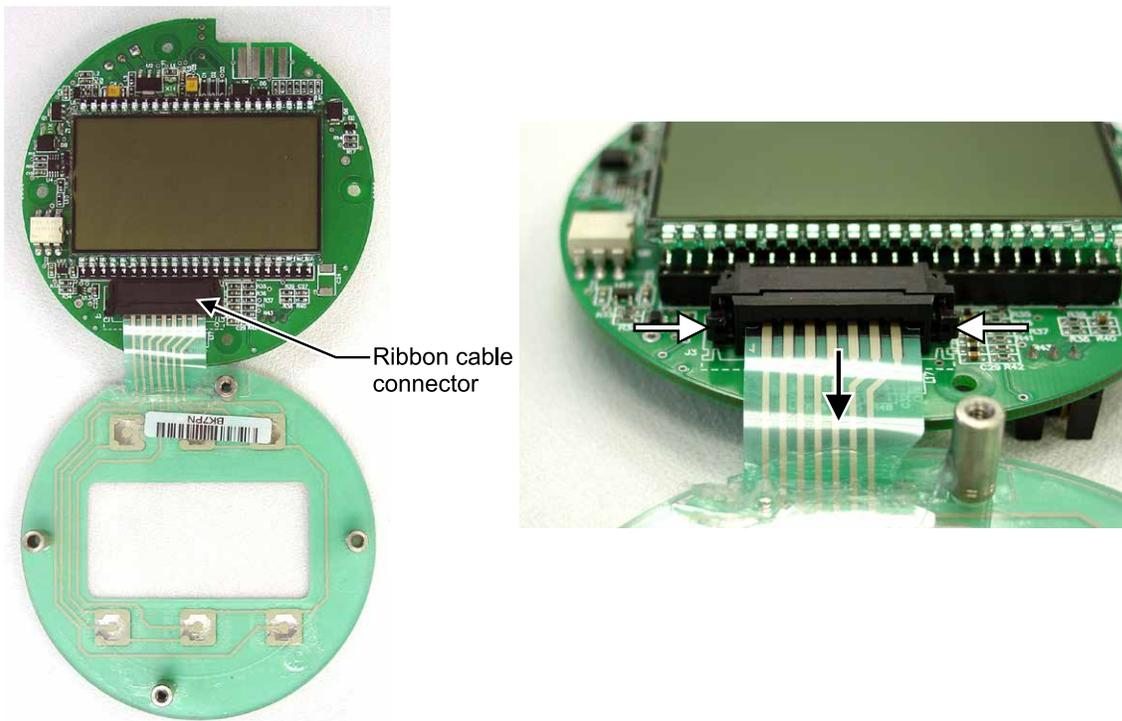

Figure 5.4 - To release the ribbon cable from the connector, press in on the side tabs of the J7 connector (white arrows) and gently pull forward (black arrow).
10. Remove the keypad ribbon cable from the J7 connector on the LCD side of the circuit board by pressing in on the sides of the black plastic clip and pulling gently on the clip. Do not pull on the ribbon cable; the cable will release freely when the clip opens (Figure 5.4, page 82).
- a. Grasp the black clip between a thumb and forefinger (Figure 5.4, page 82).